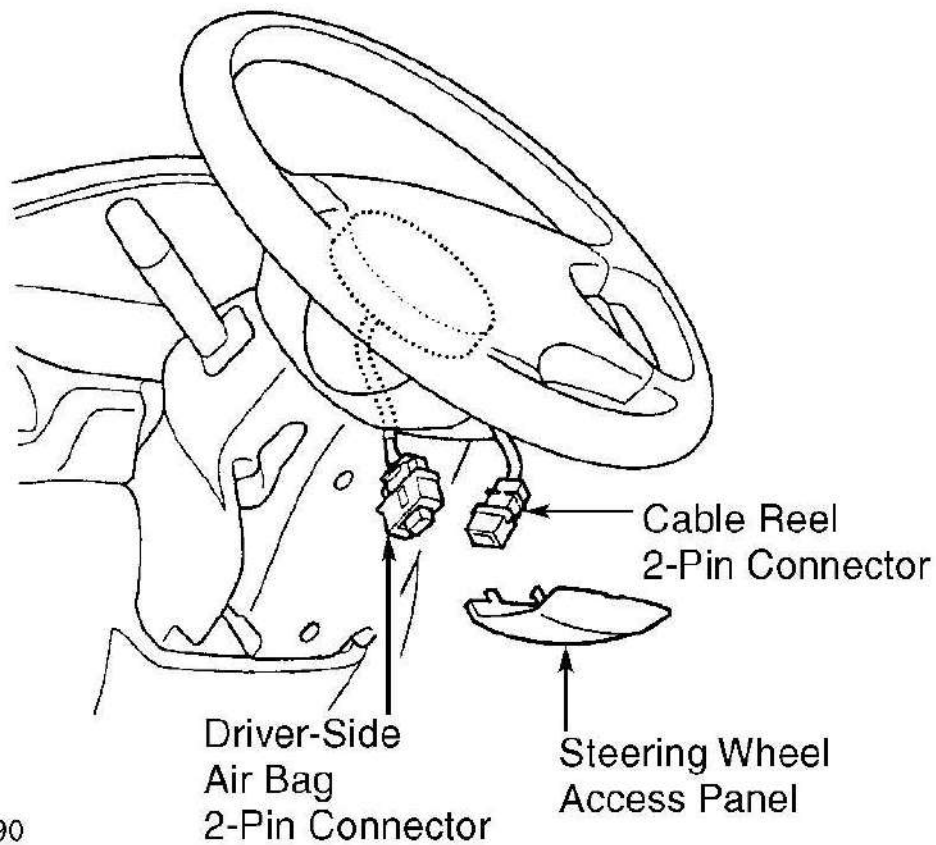
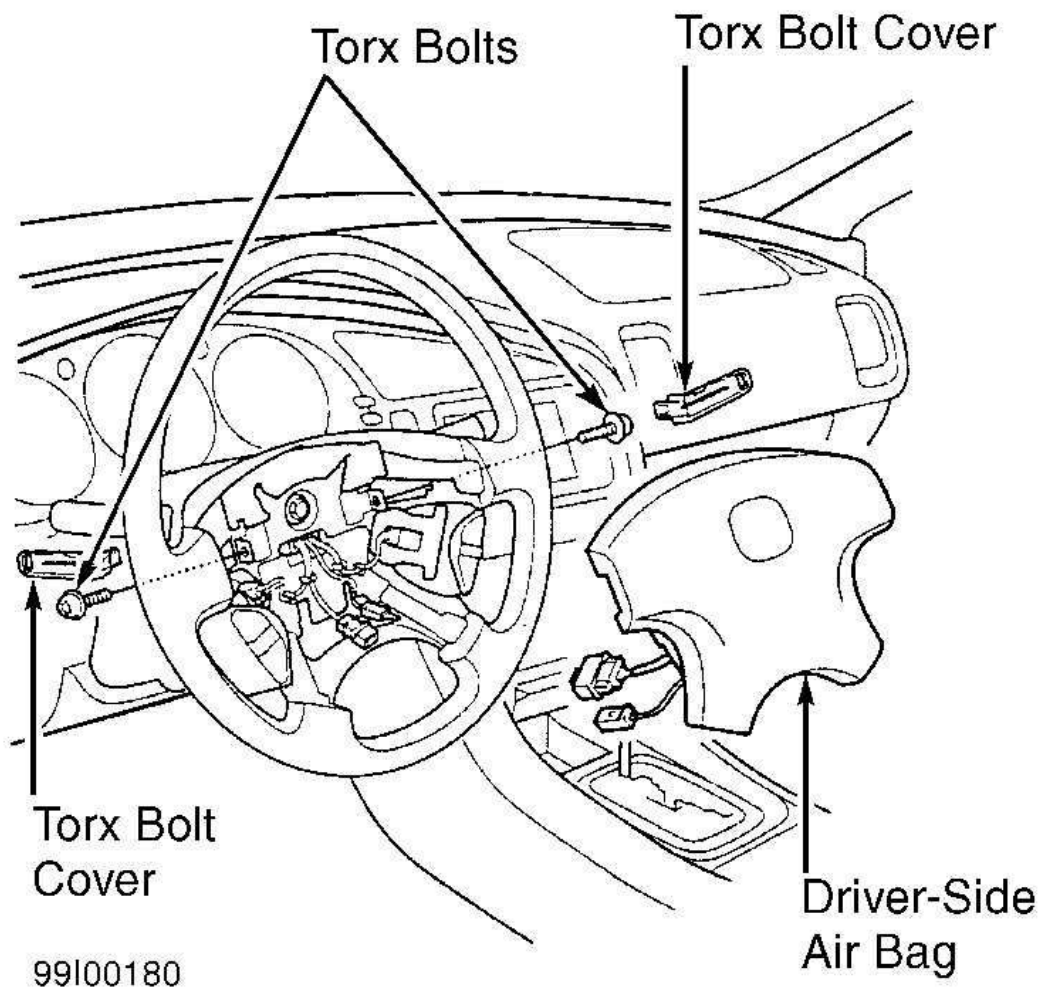

Fig. 9: Disconnecting Driver-side Air Bag
Fig. 10: Removing Driver-side Air Bag Assembly
1. Before proceeding, see **AIR BAG SAFETY PRECAUTIONS** . Disable air bag system. See **DISABLING SYSTEM** under DISABLING & ACTIVATING AIR BAG SYSTEM. Remove access panel from bottom of steering wheel. Disconnect air bag connector from cable reel connector. See **Fig. 9** . Remove Torx bolt covers. Using Torx T30 bit, remove Torx bolts securing air bag assembly to steering wheel. See **Fig. 10** . Remove air bag assembly. Disconnect horn connector.